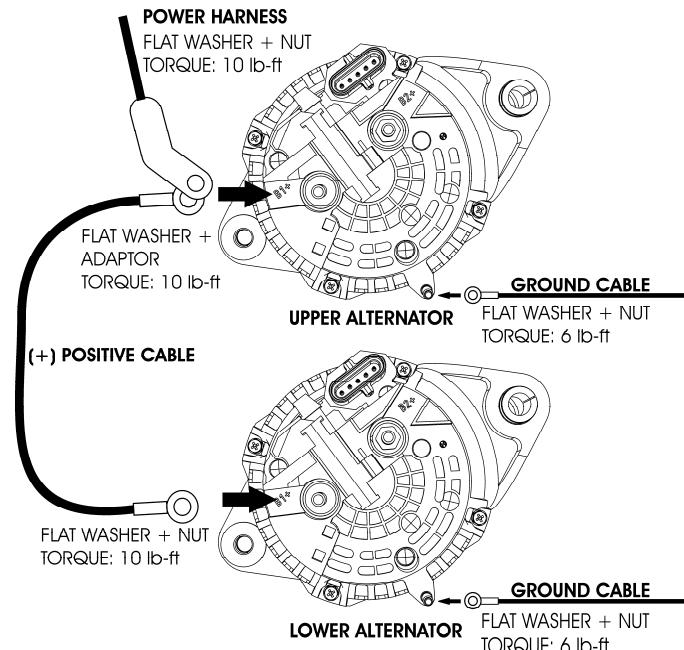

FIGURE 5
- Connect ground harness and (+) positive cable on the lower alternator as shown on figure 5.
- Connect ground harness and (+) positive cable on the upper alternator as shown on figure 5.